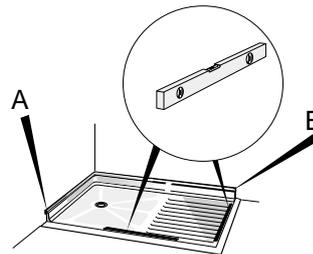
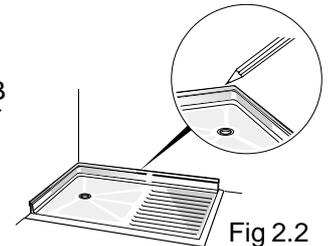

Fig 2.1
Fig 2.2
Place the shower tray into the corner and ensure that the shower base is level along its width and length, as Fig 2.1.
Mark the plaster above the tiling lip, as Fig 2.2 and door recess point and take the tray away.
**Note:** To take up the space underneath the tray (to stop it from flexing) set the tray (showering area only) on a 3:1 dry sand and cement mix. Place tray on top for imprint, remove and position drain. Sprinkle surface with water, place tray on top and hold until secure. Always ensure the tray is level, as shown in Fig 2.1.
Replace the shower tray in position. Check level as Fig 2.1. Insert packing strips to level if required.
Note: Ensure bottom fixing plate with holes facing outwards is in position as Fig 2.1.
Remove channel from jamb and place on wall as Fig 2.1. Using a pencil mark through the slots and drill the wall 50mm deep (2") using a 5.5mm drill, as Fig 2.2 & 2.3. Apply a film of silicone sealant to the inside edge of the wall channel.